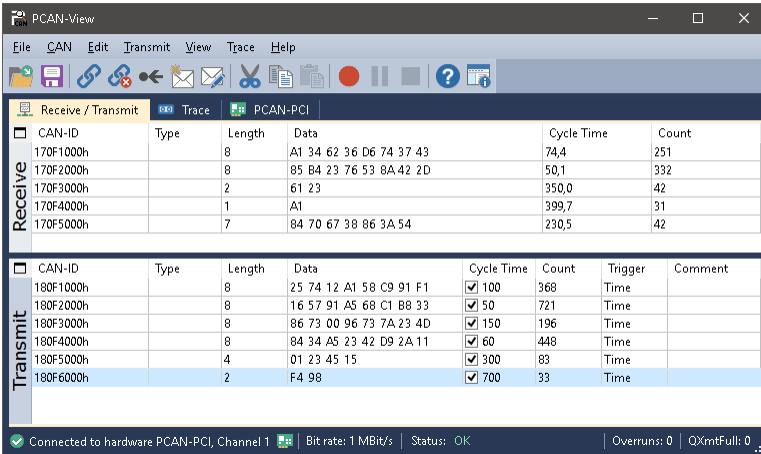

Figure 7: Receive/Transmit tab
6. Confirm the settings in the dialog box with **OK**. The main window of PCAN-View appears (see Figure 7).